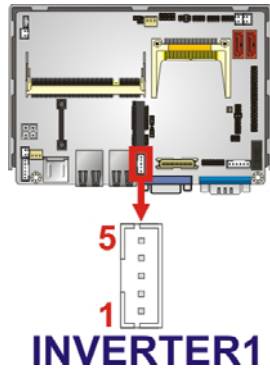

Figure 3-11: Backlight Inverter Connector
- CN Location:** See Figure 3-11